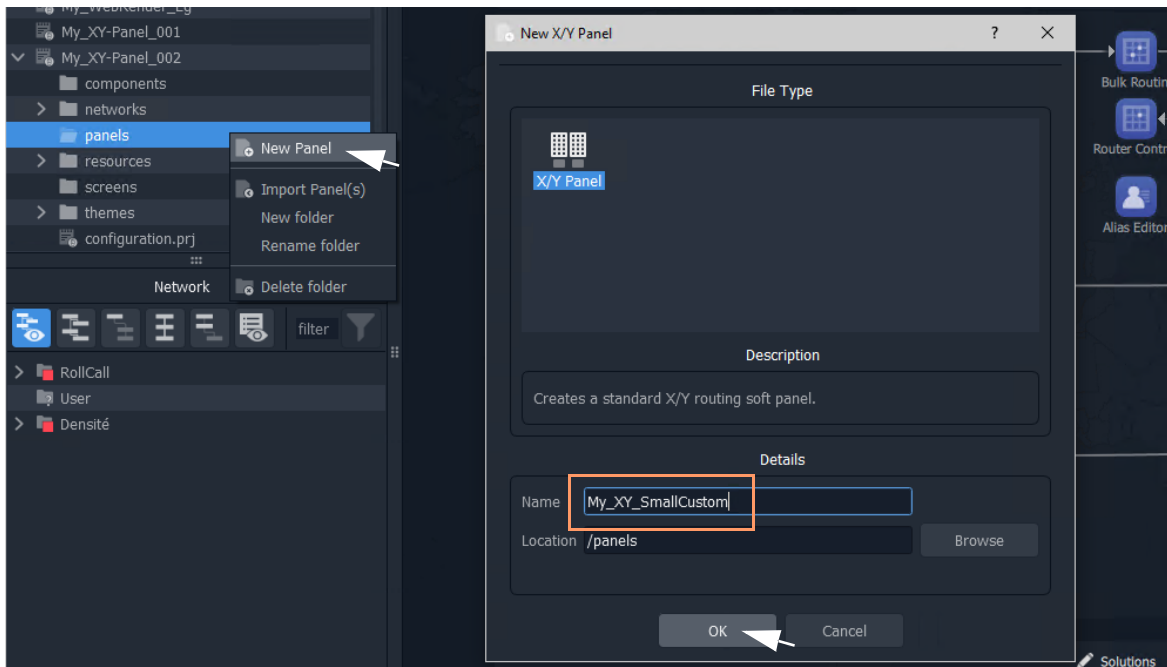

Fig. 6-38: Create New XY Panel
- 3 Enter a name into the **New XY Panel** dialog and click **OK**. See Figure 6-38.